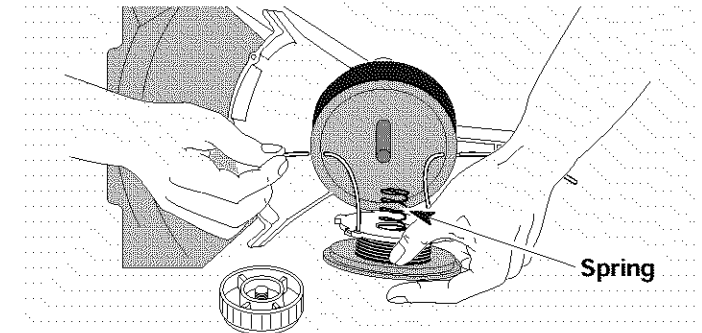

Fig. 35
13. Insert the ends of the line through the eyelets in the outer spool and place inner reel with spring inside the outer spool (Fig. 35). Push the inner reel and outer spool together. While holding the inner reel and outer spool, grasp the ends and pull firmly to release the line from the holding slots in the reel.
5. Insert the ends of the line through the eyelets in the outer spool (Fig. 35, Pg. 18).